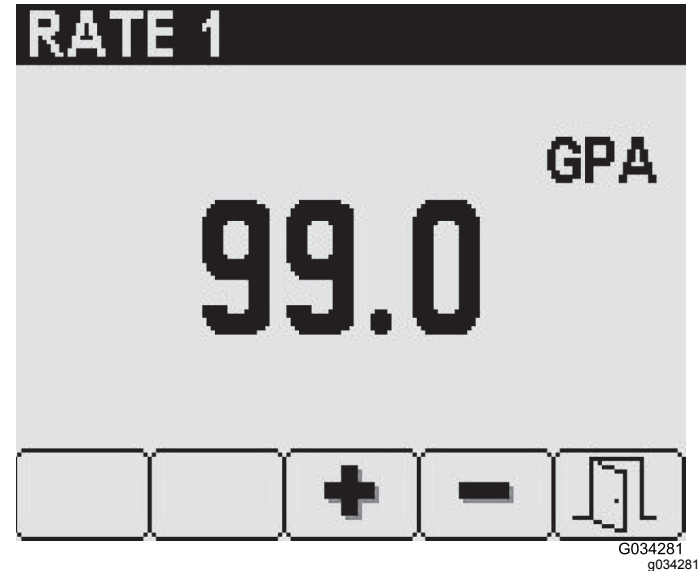

Figure 18
- 3. In the screen for the selected rate, use buttons 3 and 4 to set the desired rate (Figure 18).